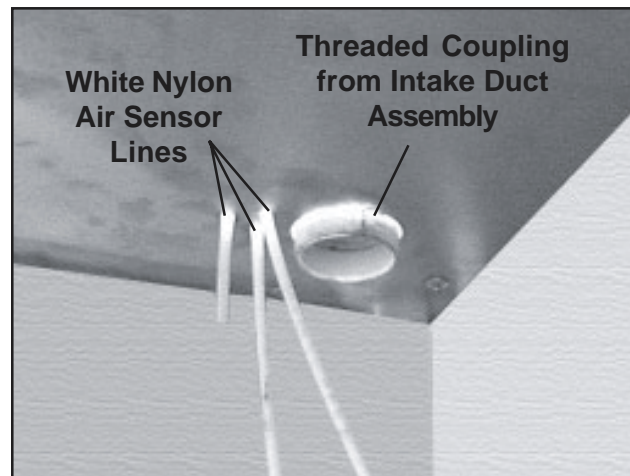

Figure 34. Air Sensor Lines & Coupling Passing Through Right Ceiling Panel
2. While supporting the panel, pass the three white nylon air sensor lines (5, 6, & 7 - refer to Step 5 on *Page 14*) down through the three small holes in the panel (Figure 34). Any line can go through any hole - it makes no difference.
Note: Three white nylon air sensor lines, numbered 5, 6, and 7, enter the cubicle next to the right air intake pipe (Figure 34).